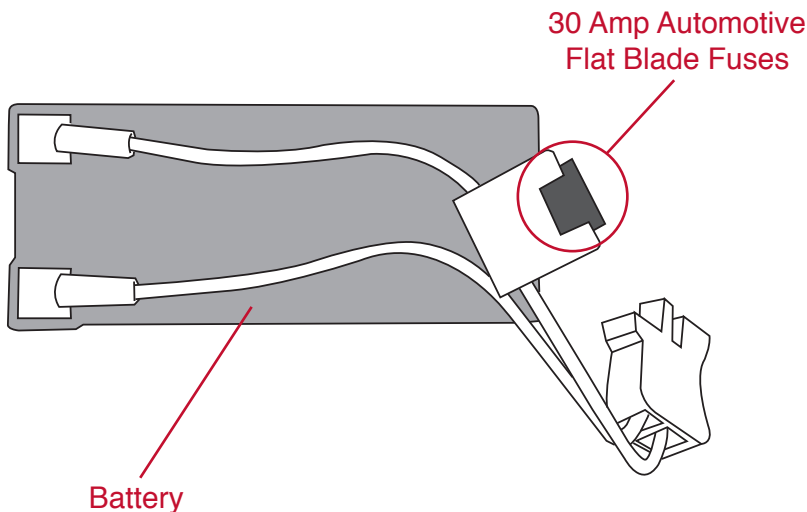
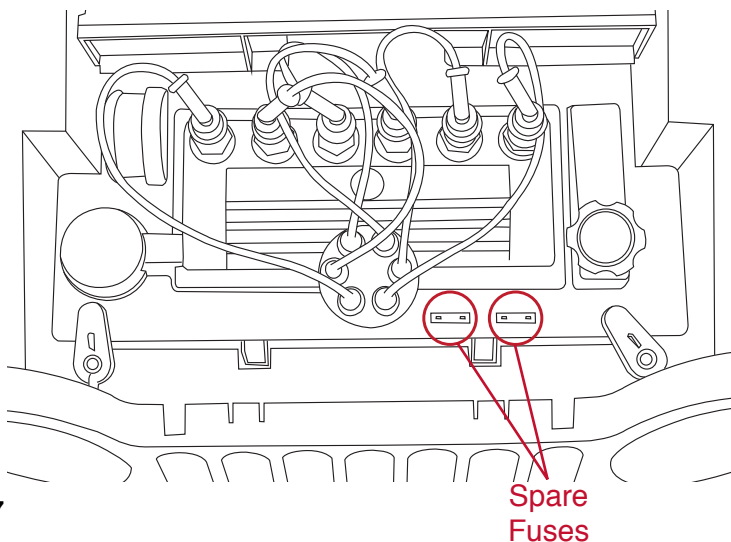

Figure 26
Figure 27
- 2) Check battery fuse on the battery wire (See Figure 26). If the fuse is blown, replace it with one of the spare 30 Amp automotive flat blade fuses found on the imitation engine plate. See Figure 27.
- 6) If problem persists, please contact customer service at (877) 456-5049.